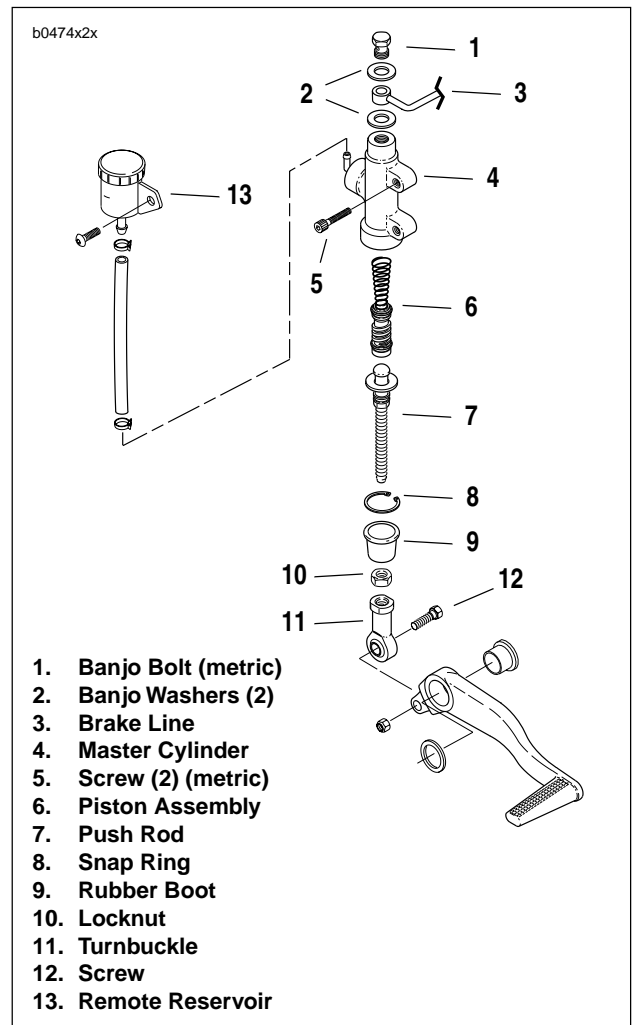

Figure 2-36. Rear Master Cylinder Assembly
2. See Figure 2-36. Remove banjo bolt (1) (metric) and two banjo washers (2) to detach brake line (3) from master cylinder (4). Discard banjo washers.
3. See Figure 2-36. Connect brake line (3) to master cylinder (4) with two **new** banjo washers (2) and banjo bolt (1) (metric). Tighten to 16-20 **ft-lbs** (22-27 Nm).